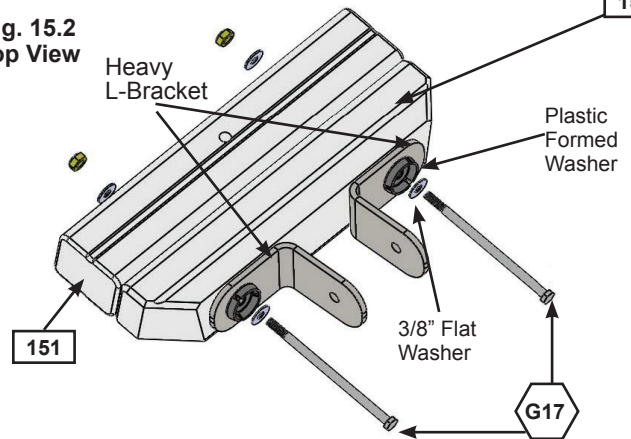

Fig. 15.3
**B:** Attach 3 (WB7) 5/16 x 3" Wafer Bolts (with flat washer and t-nut) to all three holes in each (152) SW Post as shown in fig. 15.3. **IMPORTANT! MAKE SURE ALL 6 BOLTS ARE ATTACHED TO MINIMIZE CHECKING OF WOOD.**